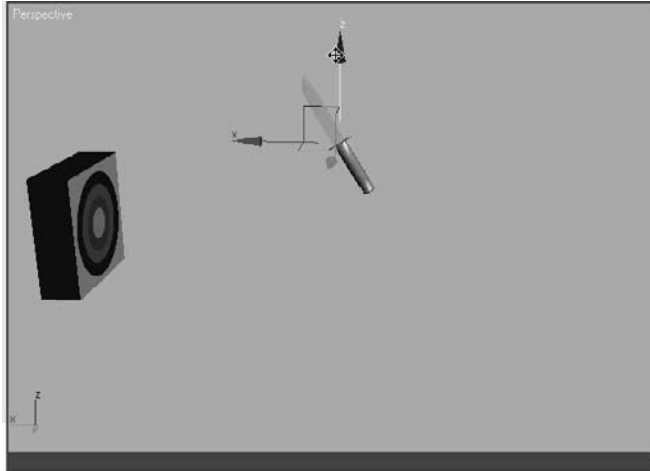

Figure 8.44
3. Move the Time slider to frame 15, where the knife is halfway between its start and the target, and move the knife slightly up in the Z-axis, so that the knife moves with a slight arc (Figure 8.44).